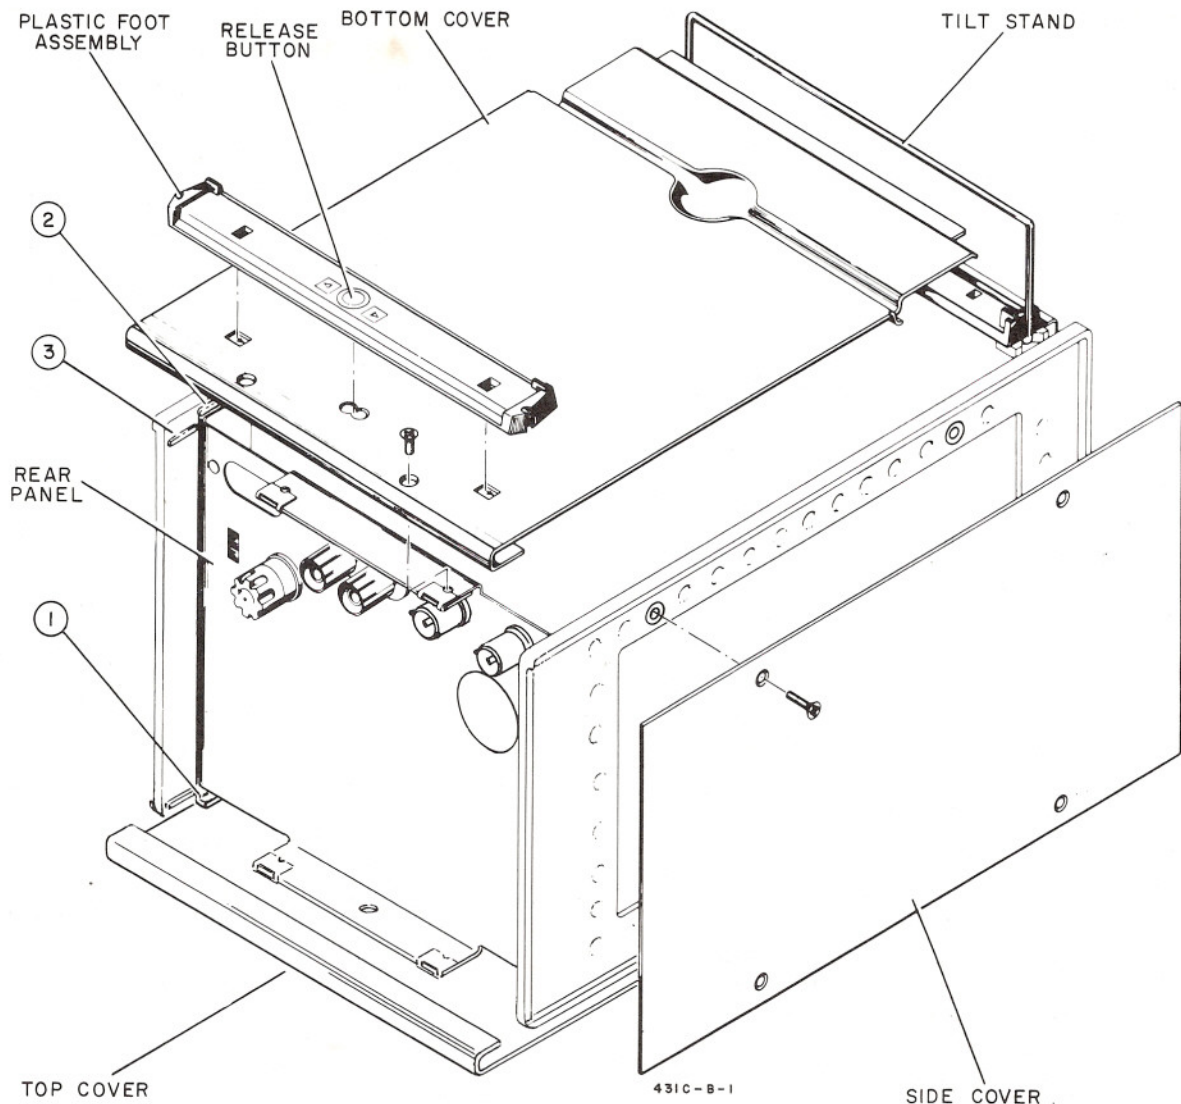

Figure 5-1. Cover Removal
a. Rest the cover flat on the cast guides projecting inward near the top of each side frame (see ①, Figure 5-1).
a. Set the tilt stand as shown in Figure 5-1.
b. Rest the bottom cover flat on the cast guides projecting inward near the bottom of each side frame (see ②, Figure 5-1).
c. Slide the cover forward on the guides so that the formed portion at the rear of the cover slides over the two short projections at the rear corner of each side frame (see ③, Figure 5-1).